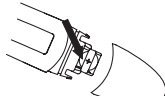

Figure 4
- Gently pull out plastic circuit board with battery chamber approximately 1 cm (slightly less than 1/2") (See Figure 4)